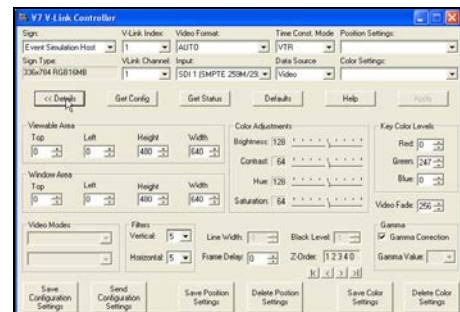

Figure 22: Details
- c. Confirm the channel is set to VLink Channel 1 and click the **Details** button on the lower left. Refer to **Figure 22**.
- Confirm the channel is set to VLink Channel 1 and click the **Details** button on the lower left. Refer to **Figure 22**.